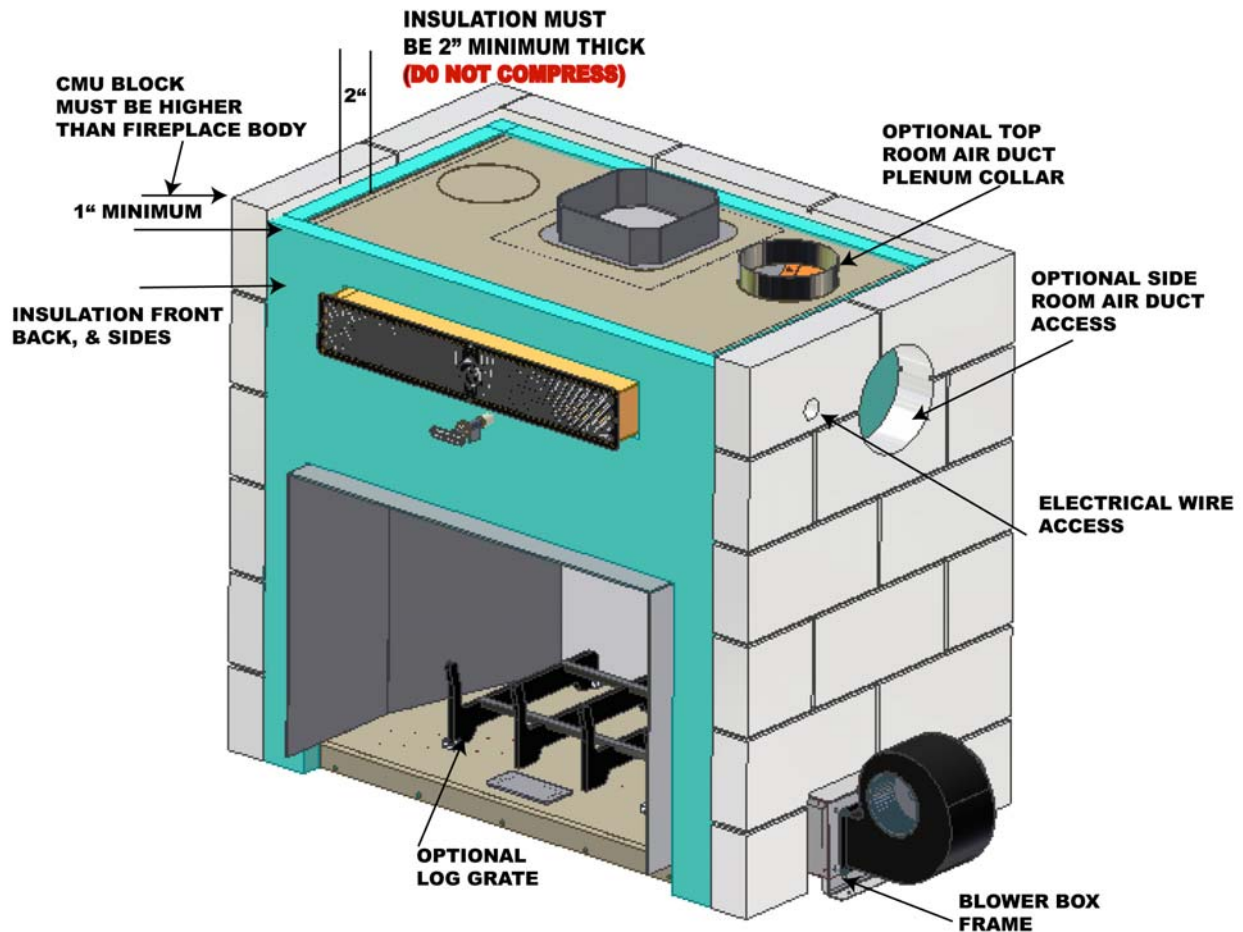

FIGURE 5: MASONRY WALL INSTALLATION
Fireplace wall construction is critical to the long term success of the fireplace for several reasons. The non-combustible brick, concrete, and masonry walls protect the combustible material that is ultimately used as the core home construction material from the intense fireplace heat. These same non-combustible walls must support the weight of the chimney system. Finally, the aesthetics of the masonry work will define the warmth and comfort of all who view the fireplace furnace for years to come. Refer to FIGURE 5 and the following steps as a guide to installing fireplace walls. Again, local codes and a chimney construction expert should be involved in the design and construction of the fireplace.
3. The left and right side CMU block walls must frame the Smart fireplace furnace blower boxes. Frame the blower boxes with CMU block as shown in FIGURE 5.
7. FIGURE 5 shows the insulation installed on the Smart Fireplace exterior sides, front and back. Insulation also must cover the top of the Smart Fireplace once the chimney is installed. Compressing insulation reduces its effectiveness. Ensure proper clearance.
11. NOTE: Country Flame's optional log grate is shown in FIGURE 5.
FACTORY-BUILT INSULATED CHIMNEY INSTALLATION – The Smart Fireplace Furnace models 33 and 37 can be installed with a Class A ten inch (10") diameter U.L. 103 HT listed factory built chimney. The Smart Fireplace Furnace model 42 can be installed with a Class A twelve inch (12") diameter U.L. HT listed factor built chimney. In order to use factory-built insulated chimney with a Smart Fireplace Furnace, refer to FIGURE 5 and follow the **FIREPLACE WALL CONSTRUCTION steps 1 through 8 listed above and then follow steps 12 through 16:**